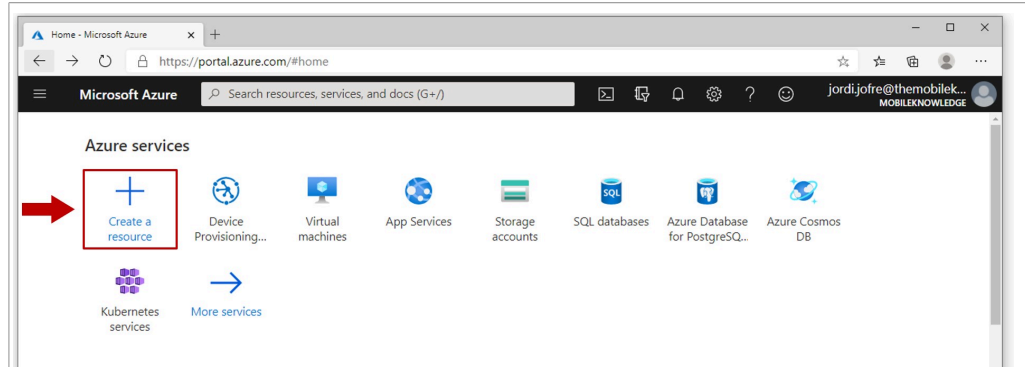

Figure 43. Create a resource
1. Log in the Azure portal. In the Azure dashboard and click on **Create a resource** as shown in Figure 43: